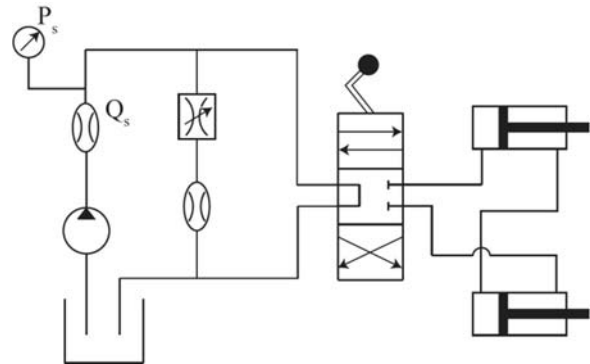

Figure 2
- Repeat the previous two steps for the circuit shown in Figure 2.